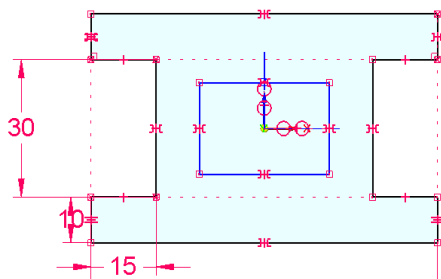

Figure 3-38 Profile after adding relationships to the inner loop
- Draw a rectangle inside the outer loop by using the **Rectangle** tool and add dimensions and relations to it, refer to Figures 3-38 and 3-39.
This completes the process of adding relationships to the inner loop. The sketch at this stage will look similar to the model shown in Figure 3-38.